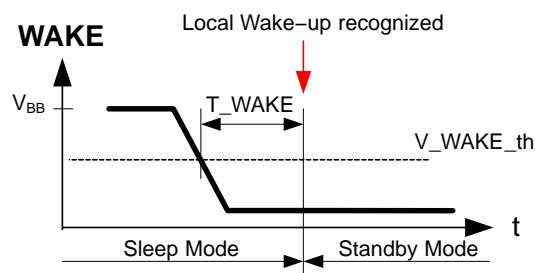

Figure 4. Local Wake-up Detection
- Local wake-up – when a high-to-low transition on pin WAKE is encountered and WAKE pin remains Low at least during T_{WAKE} – see Figure 4.